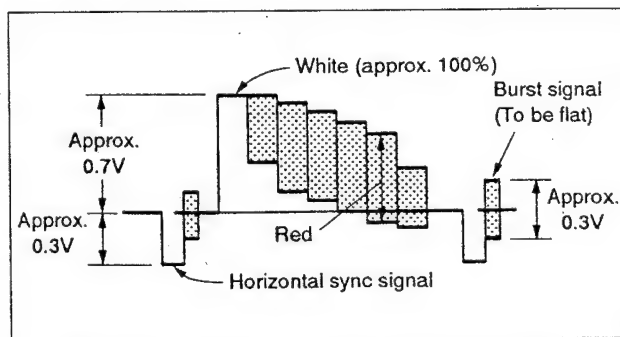

Fig. 6-2. Color bar signal of pattern generator
Since the video signal obtained from the pattern generator is used as the adjusting signal for the electrical adjustment, this video output signal should meet the required specifications. Connect an oscilloscope to Pin ⑧ (VIDEO IN) of CN201 on the VS-72 board and make sure that the amplitude of the video SYNC signal is approximately 0.3V, that the amplitude of the video image is approximately 0.7V, that the burst signal amplitude is approximately 0.3V with flat characteristics, and that the signal level ratio between the burst signal and "Red" signal is 0.30:0.66. The video signal (color bars) used for electrical adjustment are shown in Fig. 6-2.